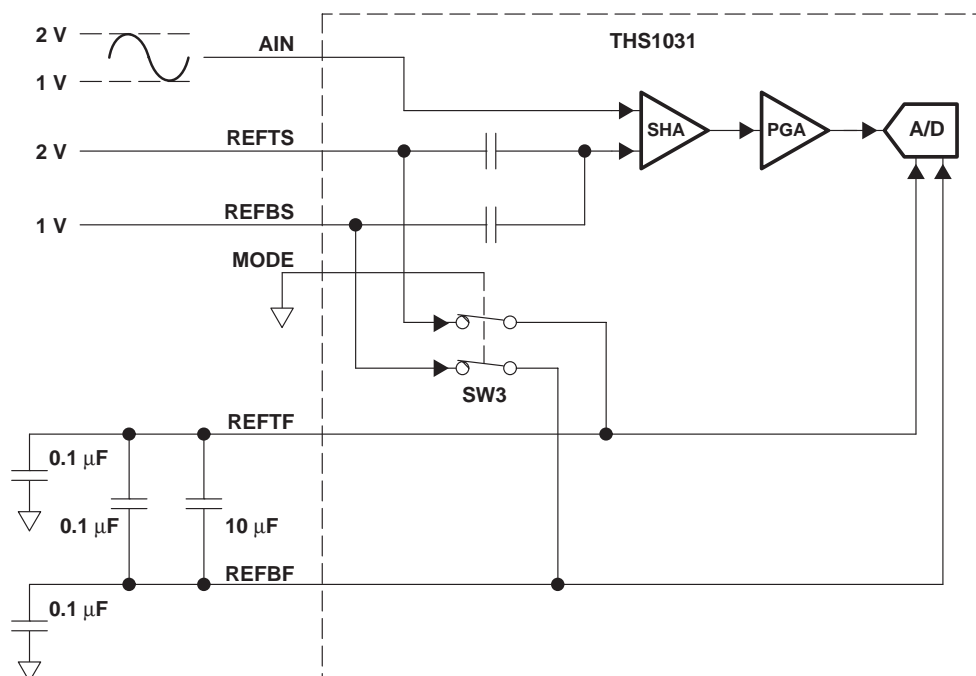

Figure 15. External ADC Reference Mode
- **External ADC Reference Mode:** A single-ended analog input is accepted at the AIN pin where the input signal is bounded by the voltages on the REFTS and REFBS pins. Figure 15 shows an example of applying external reference to REFTS and REFBS pins in which REFTS is connected to the low-impedance 2-V source and REFBS is connected to the low-impedance 2-V source. REFTS and REFBS may be driven to any voltage within the supply as long as the difference  $(REFTS - REFBS)$  is between 1 V and 2 V as specified in Table 2. Figure 16 shows an example of external-reference using a Kelvin connection to eliminate line voltage drop errors.